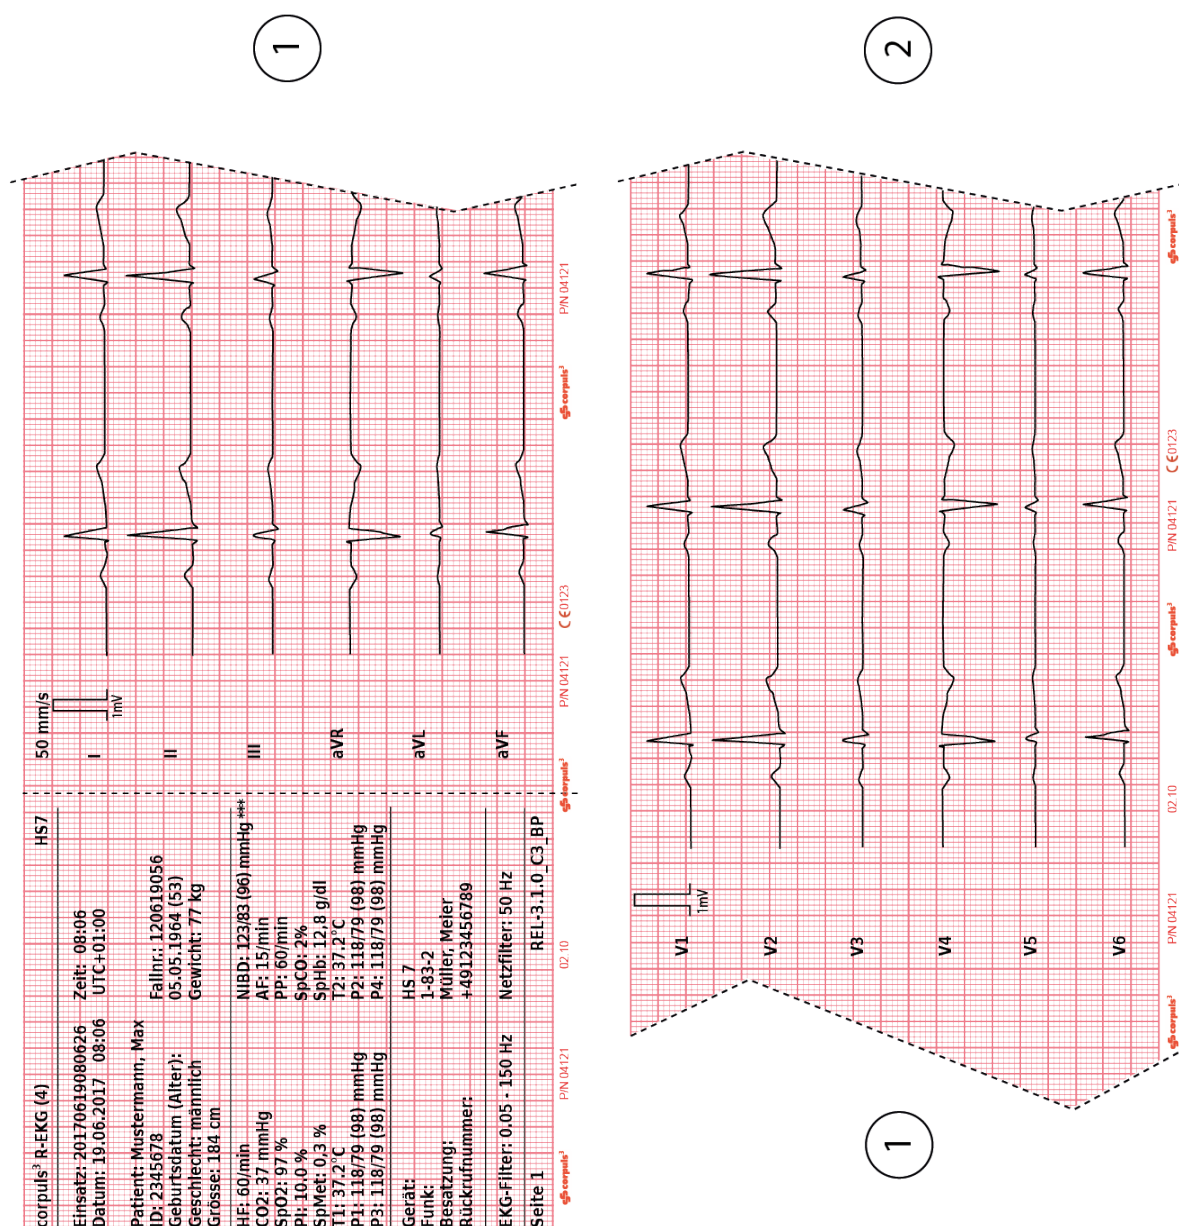

Fig. 6-12 Printout of 12-lead ECG (illustration may differ)
9. With the softkey [Print] the D-ECG is printed out for diagnosis (see Fig. 6-12 Printout of 12, page 122) and with the softkey [Send] it is sent.